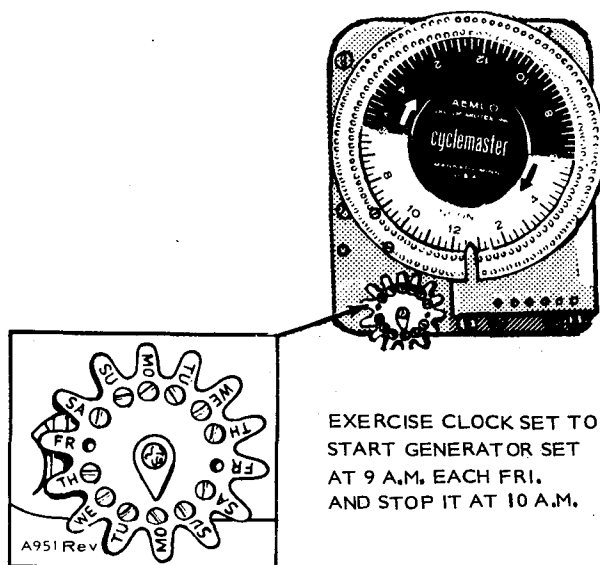

FIGURE 11. EXERCISER CLOCK
3. Install a trip pin (left-hand thread) in the inside row of holes on the large dial for the time of day you want the generator set to start. See Figure 11.